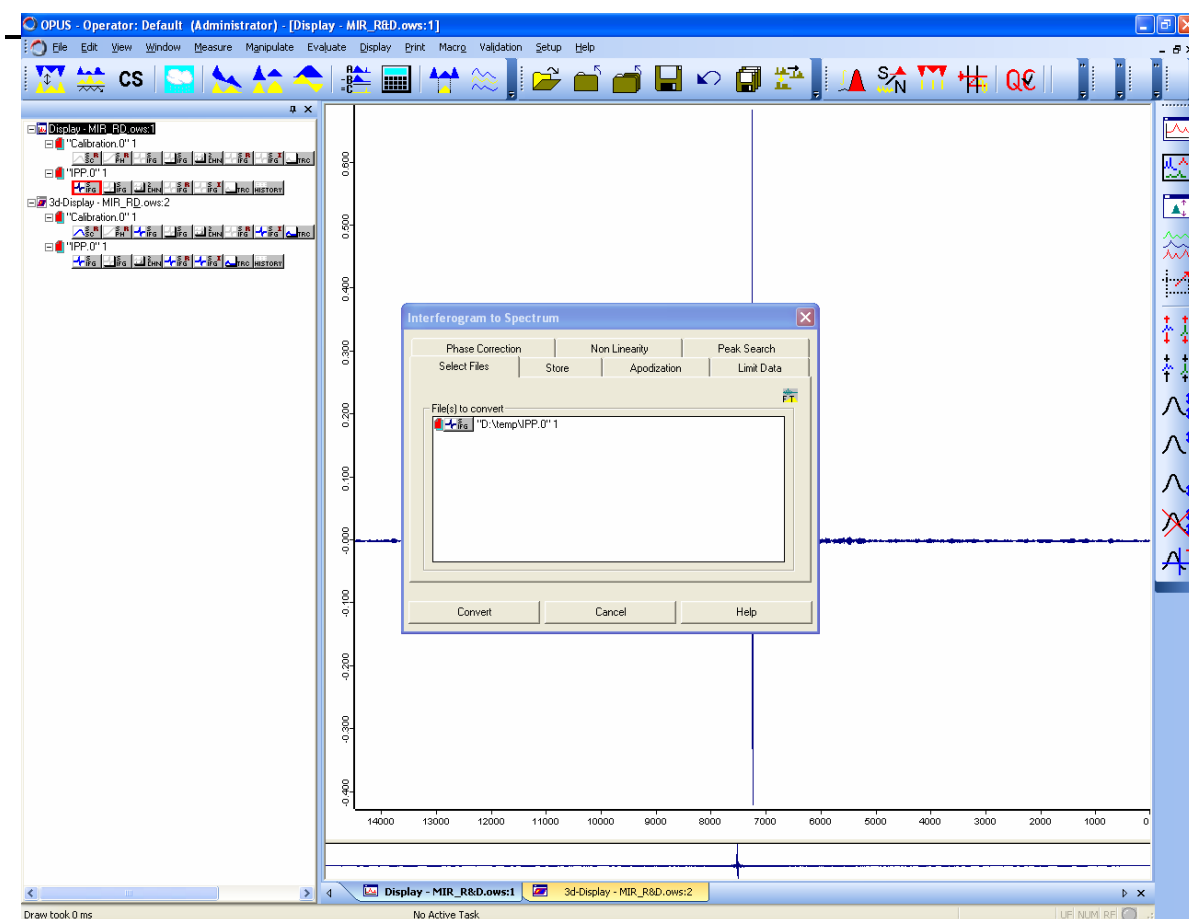

Fig. 25: Applying the “Interferogram to Spectrum” function to the constant interferogram of the sample measurement
- Select the data block “IFG” of the file resulting from the sample measurement. This data block contains the part of the sample infrared signal which is independent from the modulation. Select in the “Manipulate” menu the “Interferogram to Spectrum” function. Thereupon, the “Interferogram to Spectrum” dialog window appears. (See figure 25.) This time, deactivate you “Save Phase” check box on the “Store” page. For the other parameters, use exactly the same settings as done before in case of the file resulting from the calibration measurement. Click on the “Convert” button. As a result, an additional data block “**SSC**” will be added to the file resulting from the sample measurement. (See figure 26). This file contains the constant part of the single channel sample spectrum which is independent from modulation.